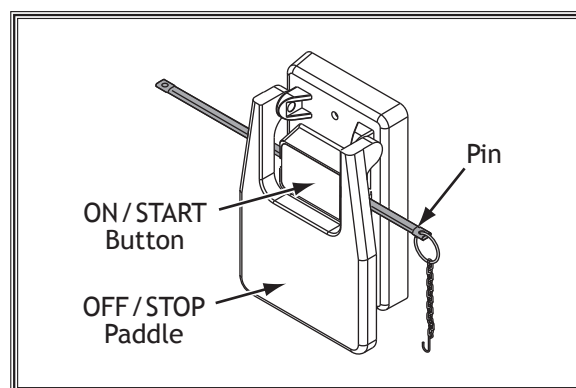

Figure 26. Switch disabling pin inserted into ON button.
6. Insert the switch disabling pin through the green ON button, as shown in **Figure 26**.